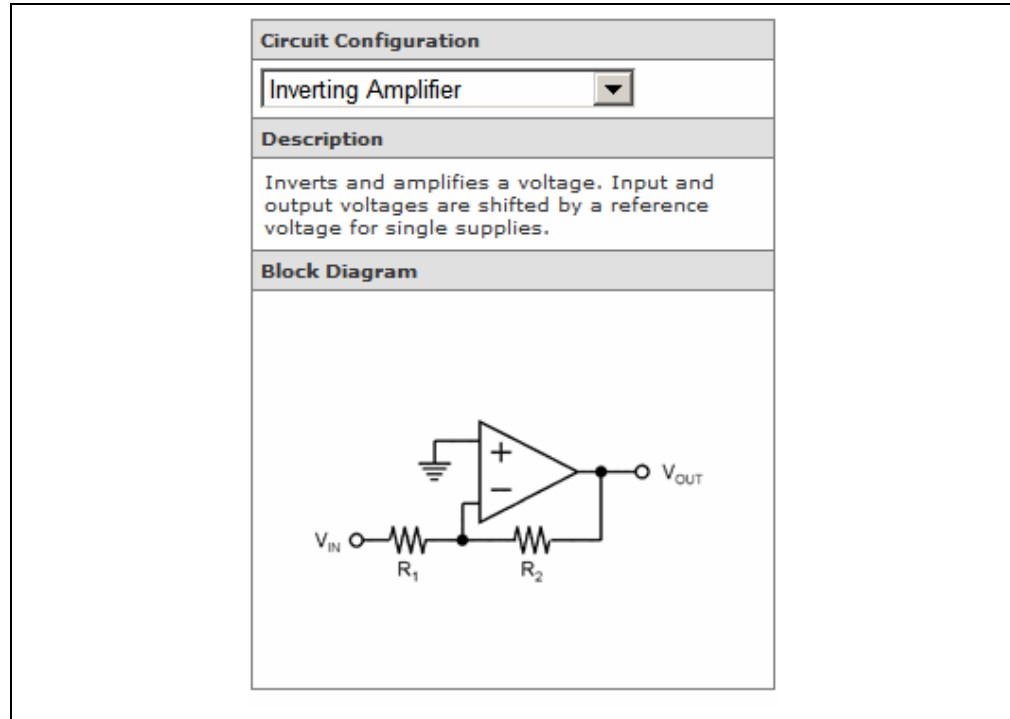
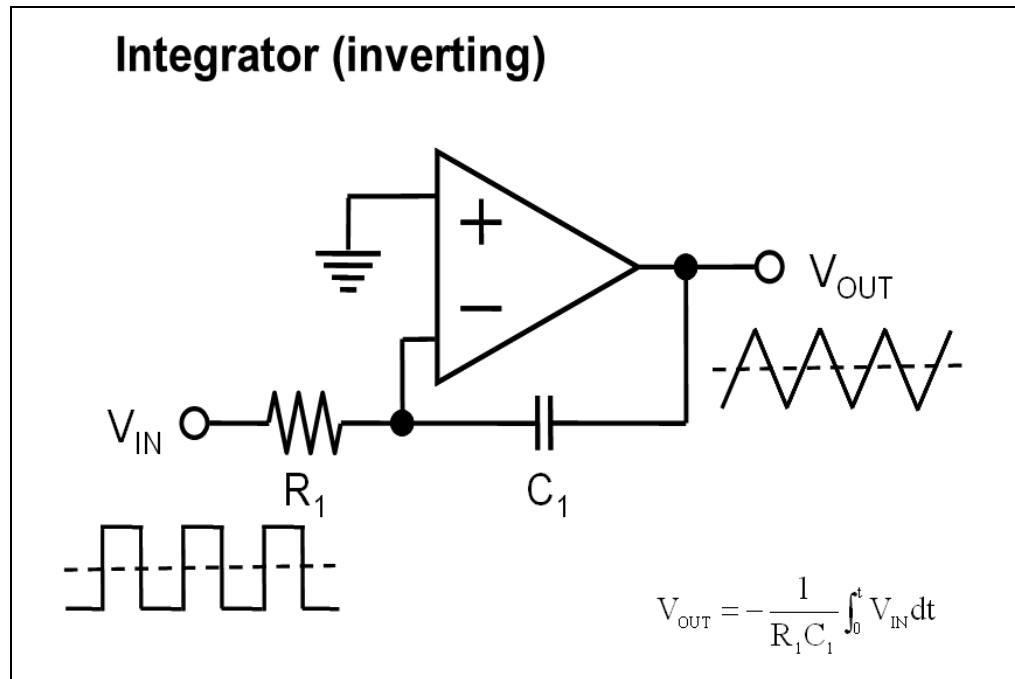

FIGURE 3-2: Inverting Amplifier.
FIGURE 3-17: Enlarged Inverting Integrator Block Diagram.
1. Move the mouse over the block diagram and click on it to enlarge it, as indicated in Figure 3-2 through Figure 3-17.